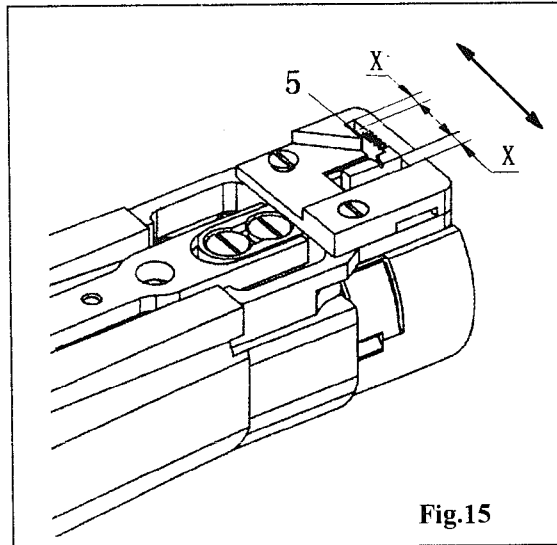
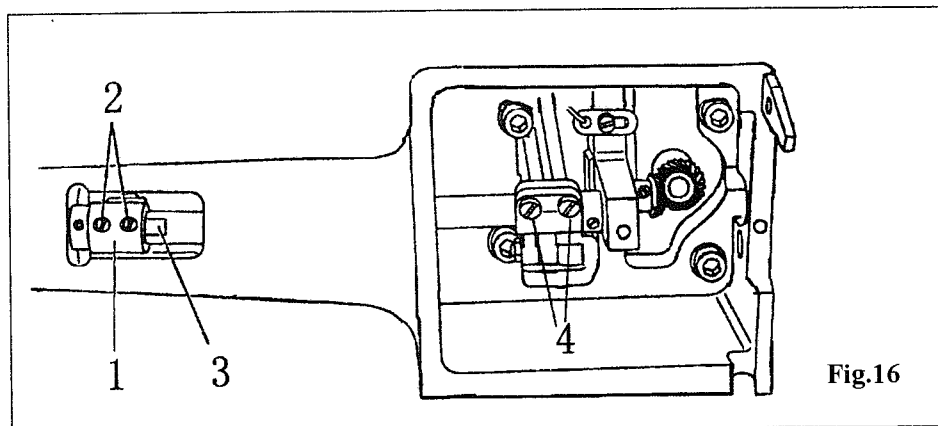

Fig.15
Fig.16
### (2) Positioning the feed dog in the direction of sewing (Fig.15 Fig16)